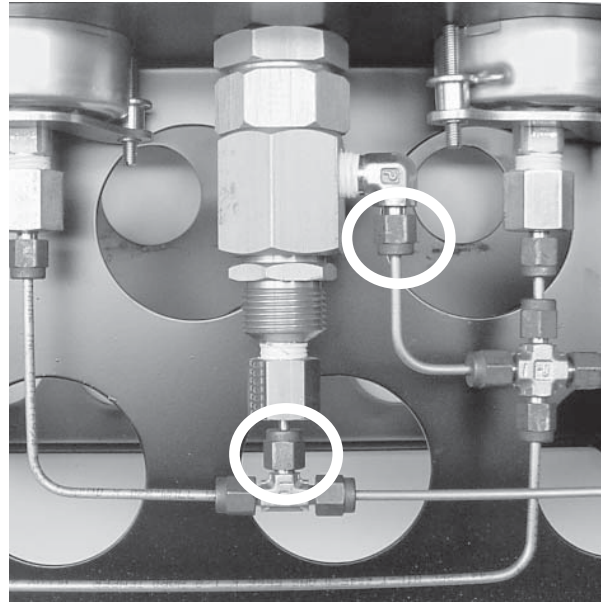

figure 43
16.1.2. Disconnect the two compression connections (PRS8 and MRS2) from the regulator's inlet and outlet fittings (figure 43). Use a $7/16$ " size wrench.